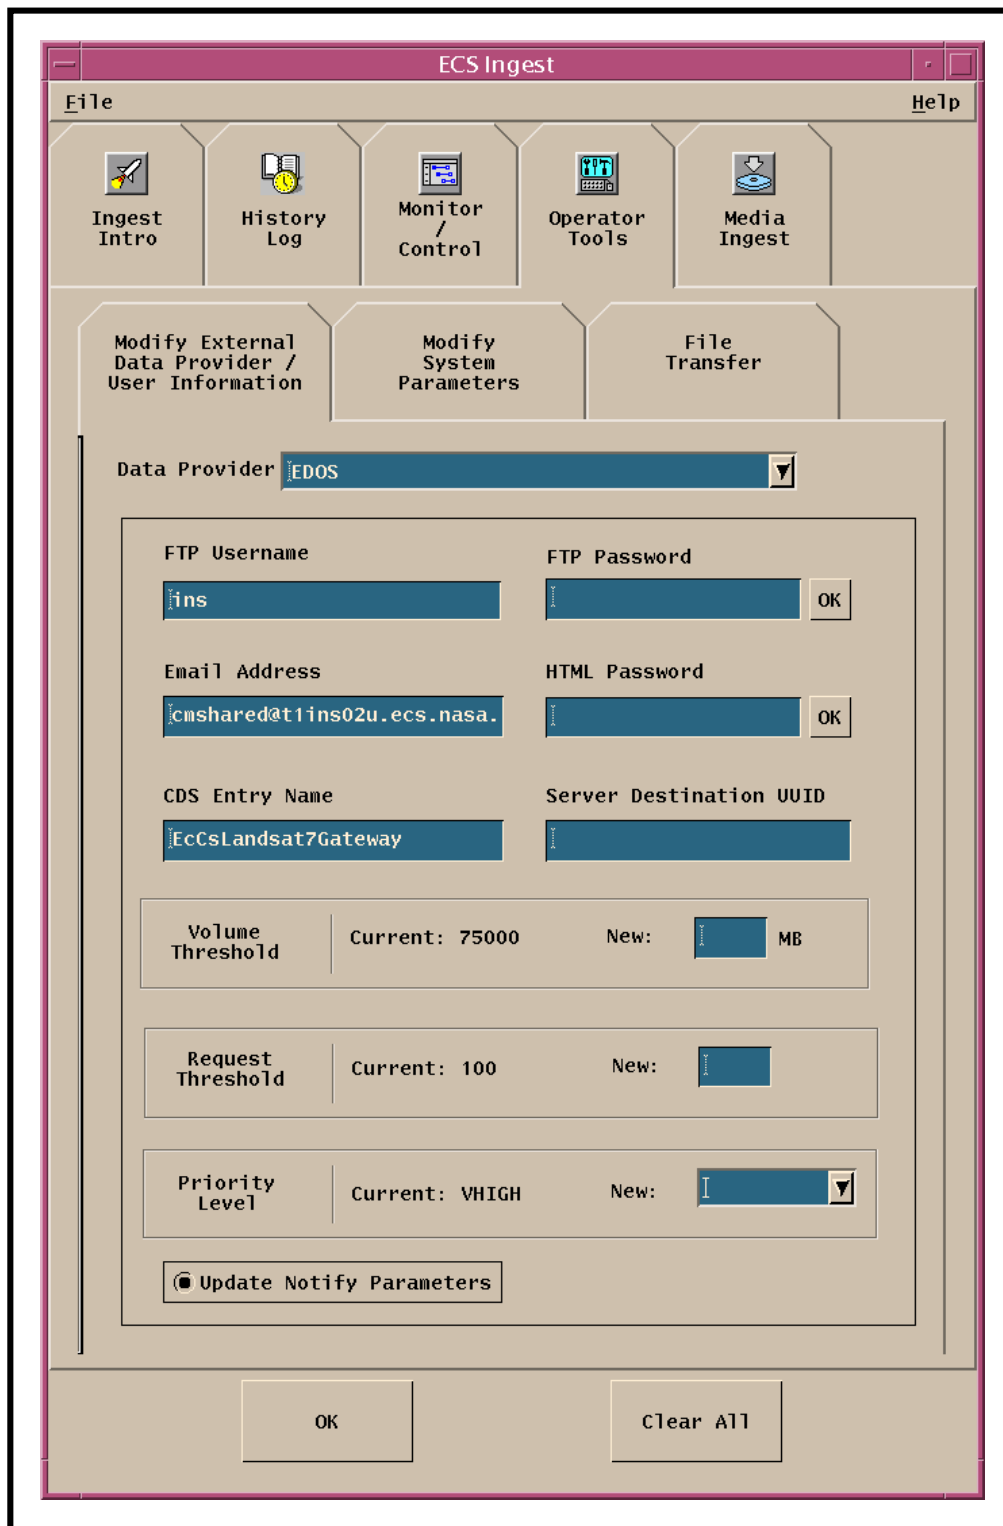

Figure 29. Ingest Data Provider Parameter Modification Screen
Figure 29 shows the screen for modifying data provider thresholds. The screen shown in Figure 29 is used for modifying external data provider information. It has the following uses:
- The **Operator Tool** screen (Figure 29) is displayed.
- The **Modify External Data Provider/User Information** screen (Figure 29) is displayed.
- The **Operator Tools** screen (Figure 29) is displayed.